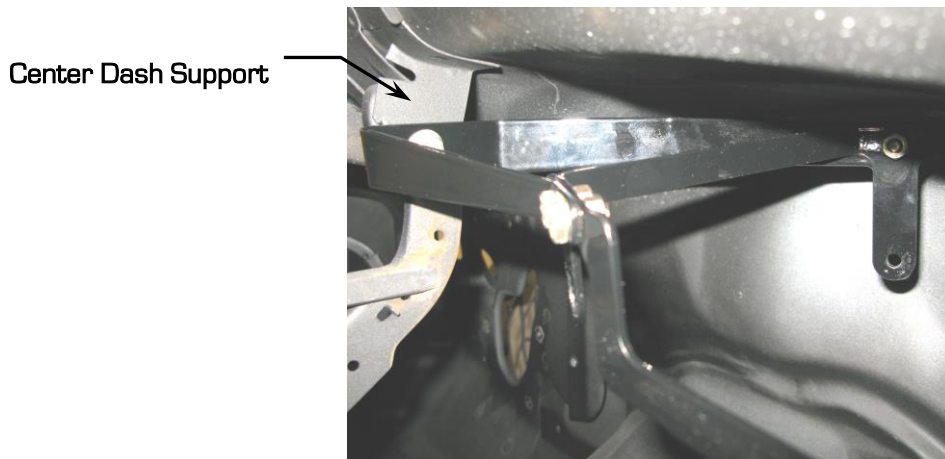

Figure 2 - Center Dash Brace Attachment
3. Install the bracket in the car. Locate the upper mounting hole on the center dash brace. Install a 1/4"-20 x 1/2" L Hex Head Bolt and a 1/4"-20 Nylock nut. Leave this bolt loose at this time. Refer to Figure 2 below.